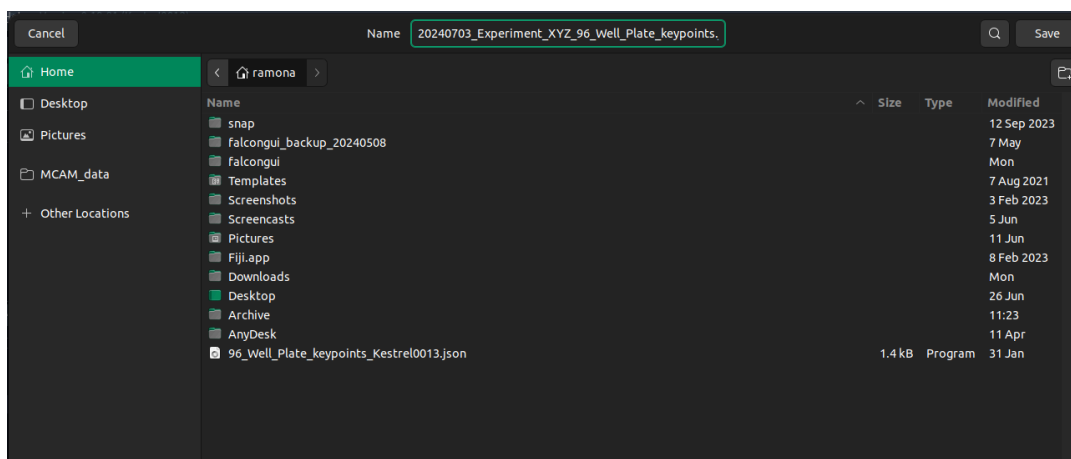

Fig 35: Format for saving well alignment.
- 9) Select a save location and file name for this “.json” file. We recommend file names with a date and/or experiment description as well as the well plate type (Fig 35).